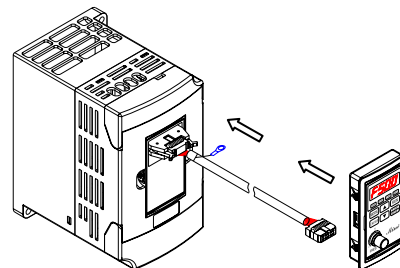

Fig. 3-7
STEP 4. Put the dismantled keypad into the installation frame . Fix and fasten it . Put the other side cable insert into the keypad.(as shown in the figure 3-7).